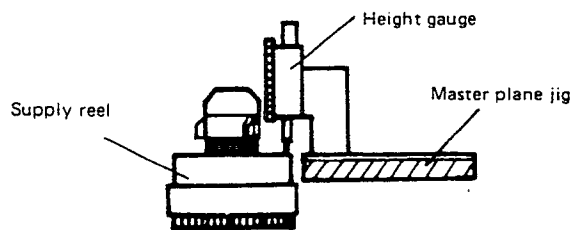

Fig. 17 Reel height adjustment
3. Check reel assembly height measure at two places 90° apart. (± 0.2 mm) (Fig. 17)